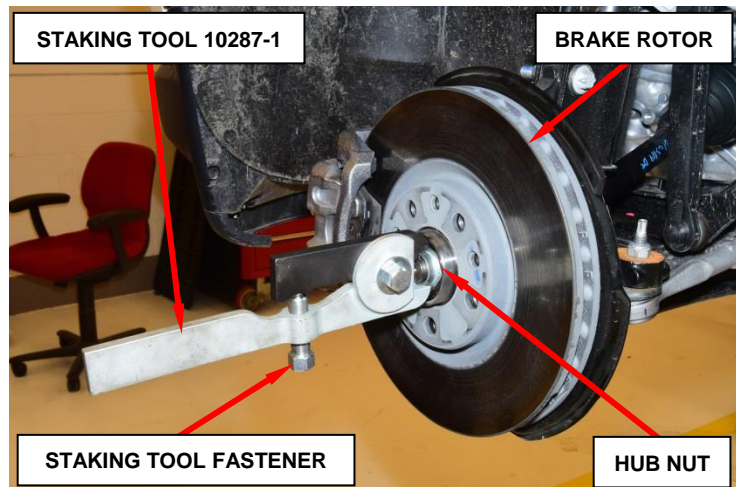

Figure 11 – Staking Tool
17. Install a **NEW** hub nut, then tighten the nut to 165 N·m (122 Ft. Lbs.) (Figure 11).
18. Using Staking Tool 10287-1, align the leading cutting edge of the tool with the top left side channel on the axle. Tighten the fastener on the staking tool with hand tools until the threads bottom out completely (Figure 11).